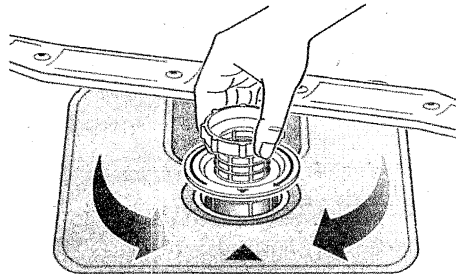

Figure 34
1. Turn the ring handle (as shown in Figure 34) 1/4 turn counter-clockwise and lift out.